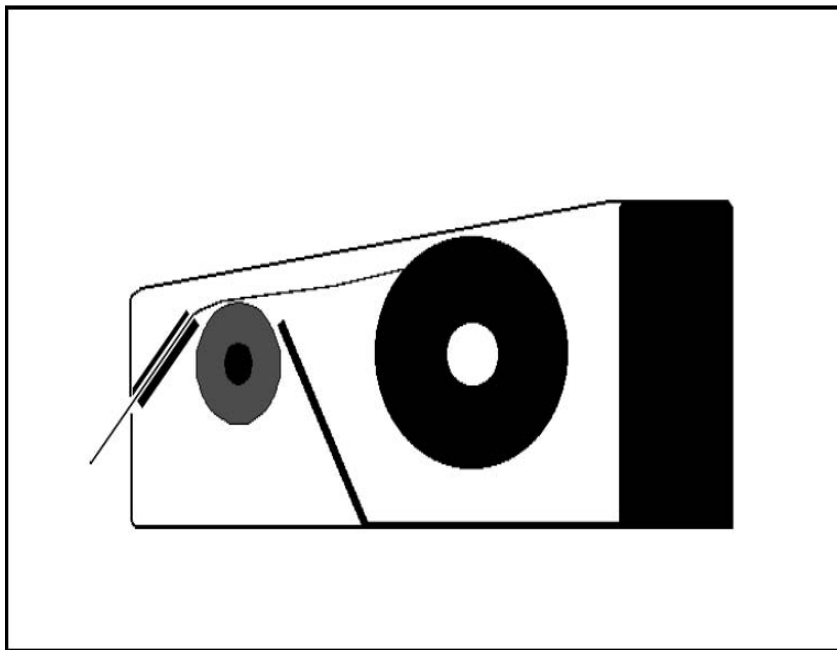

Figure 3-3 Roll paper path
6. Guide the paper over the blue platen roller and under the black cutter bar as shown in Figure 3-3.
6. Guide the film over the blue platen roller and under the black cutter bar shown in Figure 3-3.